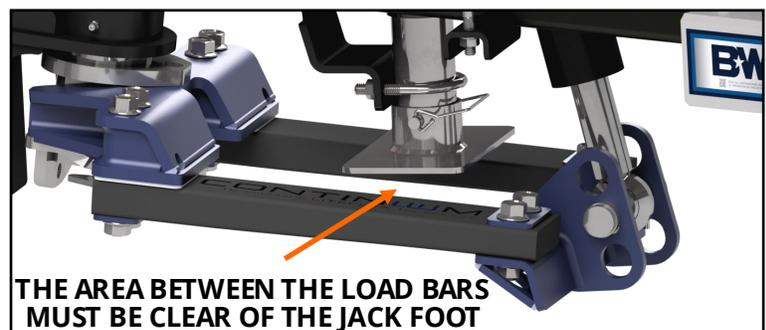

FIGURE G2: View of the jack foot above the load bars.
2. **Raise the jack foot.** When towing, raise the jack foot above the load bars, see **Figure G2**. Placing the foot or any accessories between the load bars while towing may cause damage to the load bars during tight turns. If the jack foot or accessories are not clear of the area between the load bars, remove them before towing.